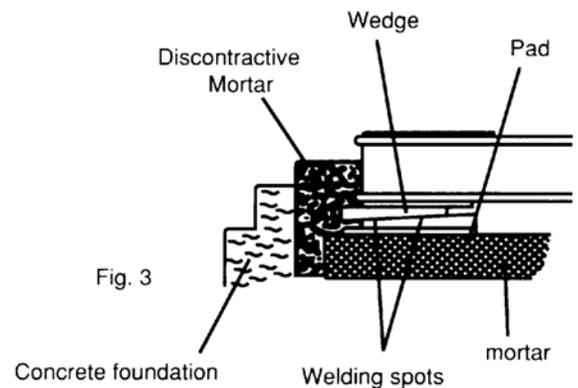

Fig. 3
- (d) Sole plate or common bed should be embedded in concrete foundation as illustrated in Fig. 3. Stiff pads should also be installed beneath the wedges, which are welded together at various spots about 400-500mm (15.75-19.70 inches) apart etc., to enable the foundation to carry evenly the weight of the whole motor.